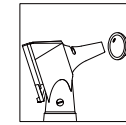

fig.2
- Select a reasonable tip for patient's ear canal and push it onto the head and screw the tip clockwise, refer to fig.2. Generally, the tip size of 4mm is for adults and 2.4mm is for children;